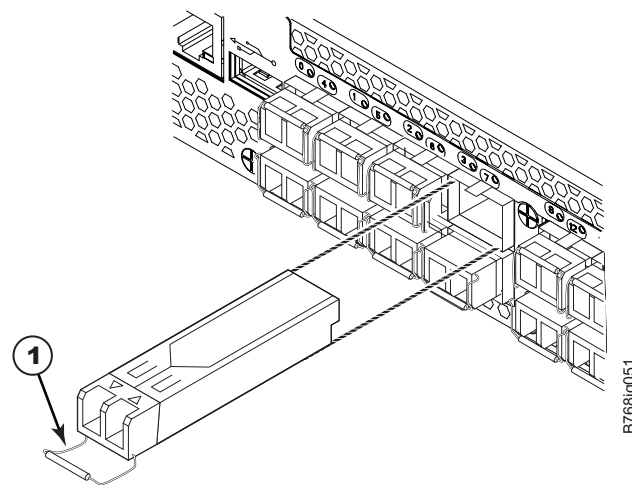

Figure 44. Removing and replacing an SFP+ optical transceiver
3. Using the hooked end of the tool, pull the bail (wire handle) **1** away from its pivot point and out, sliding the transceiver out of the port (Figure 44).